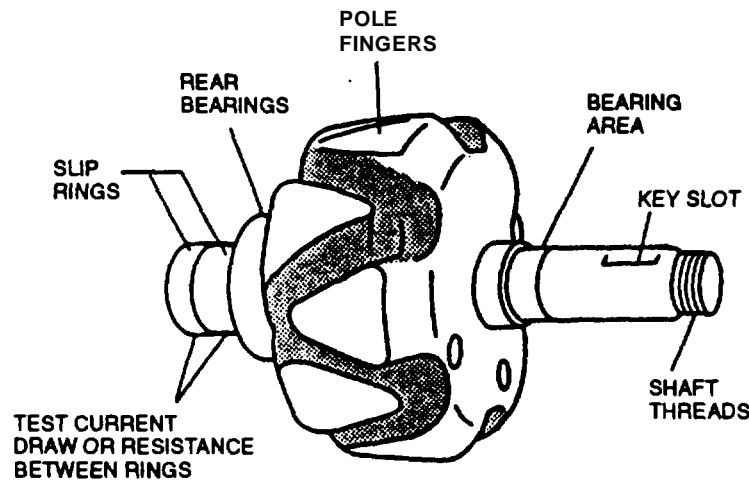

FIGURE 3-12. Testing Rotor
- f. Set multimeter for ohms and check rotor assembly (refer to FIGURE 3-12) for 12.0 to 13.0 ohms indication between slip rings. Also check that open circuits are indicated between pole fingers and each slip ring. Replace entire rotor assembly if indications are other than stated.